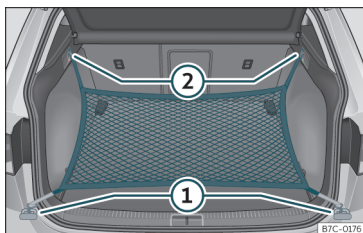

Fig. 144 In the boot: rings ① and hooks ② for attaching the net bag.
- Secure the short net hooks to the fastening rings >>> Fig. 144 ① >>> △. The bag zip should be facing upwards.
- Secure the straps in the bag hooks ②.